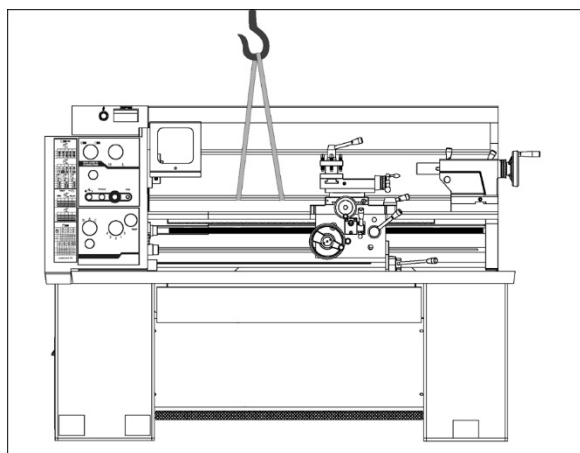

Figure 6-2
7. With proper lifting equipment, slowly raise lathe off shipping pallet. (See Figure 6-2). **Do not lift lathe by the spindle. Do not place slings around bed – this can bend leadscrew and feed shaft.**